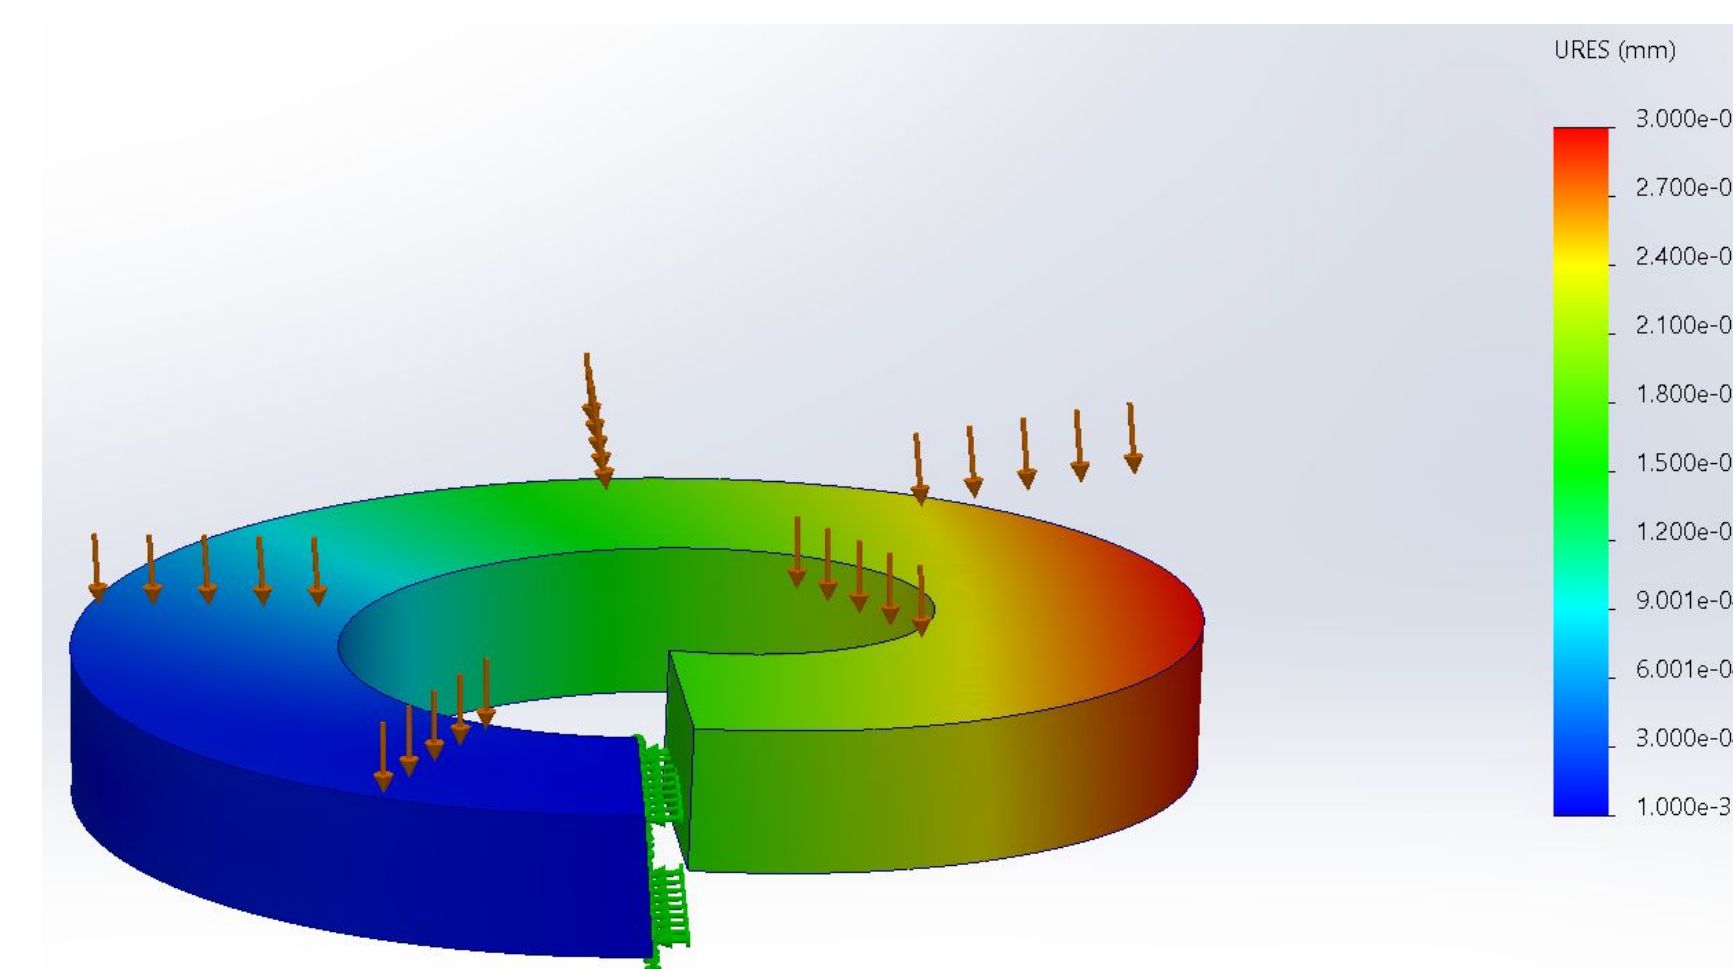

Figure 3: Split lock washer testing in Solidworks
- Tested the design in Solidworks by applying forces, fixing a side, and measuring the displacement (Figure 3)